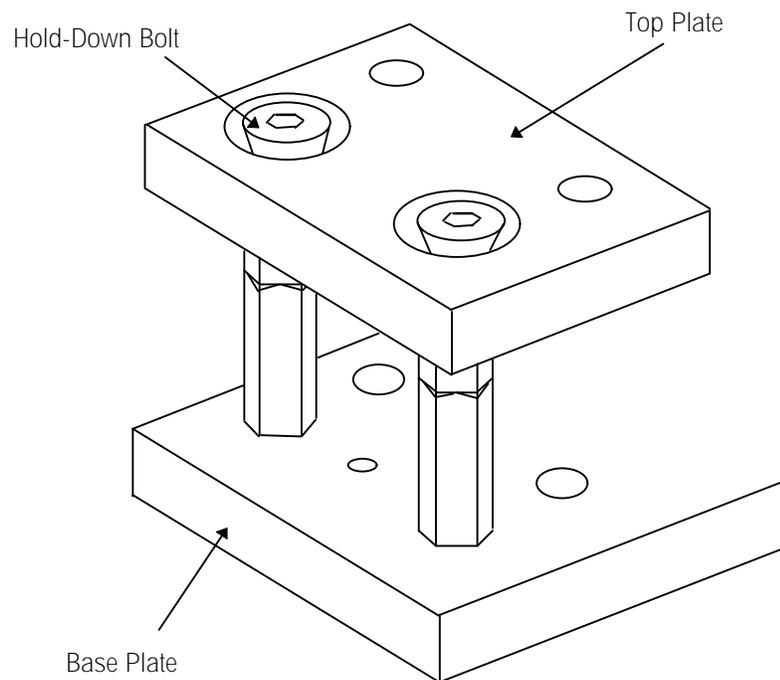
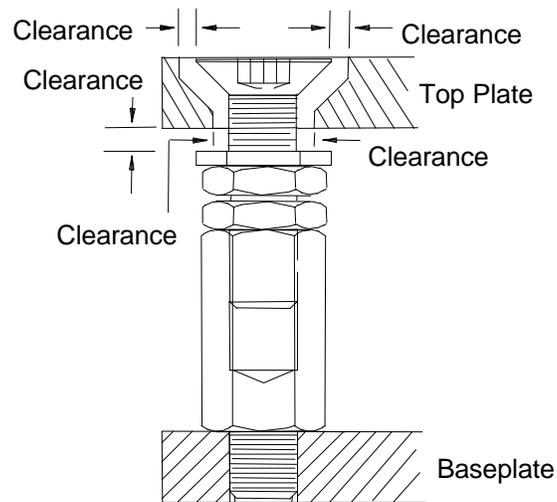

Figure 3-2: Hold-Down Bolt Assembly
Figure 3-3: Hold-Down Bolt Assembly - Cross Section
7. After all the top plates are down, apply load to the load cells and make sure there is adequate clearance between the hold-down bolts and retaining holes. See Figure 3-2 and Figure 3-3.